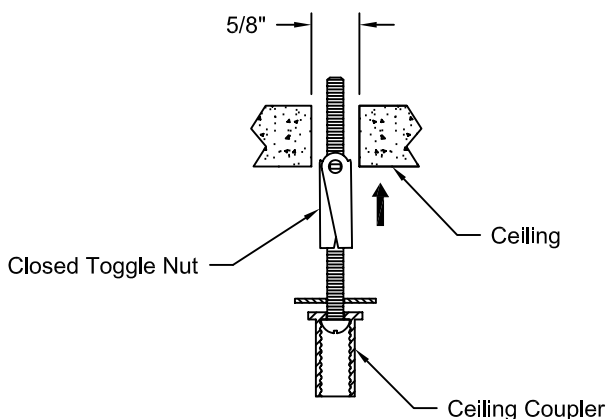

Figure 2
3. Make 5/8 inch diameter hole through Ceiling. See Fig. 2.
1. Press Toggle Nut Closed and slide through 5/8 inch hole in Ceiling. See Fig. 2.